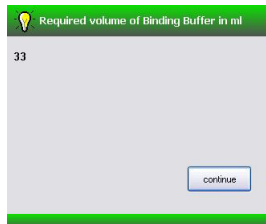

Figure 12. Requested volume of Binding Buffer - dialog window
22. Check for the necessary volume of Binding Buffer (Fig. 12).